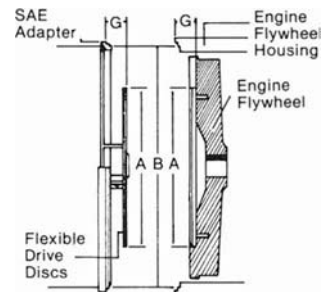

Figure 2
**NOTE:** Prior to assembly insure dimensions A, B, and G in Figure 2 are correctly matched.